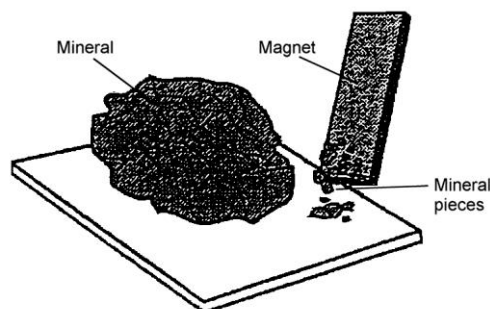

FIGURE 21. Testing for magnification
1. To test a mineral for magnetism, break it in small pieces and test the pieces with a magnet as shown in FIGURE 21.